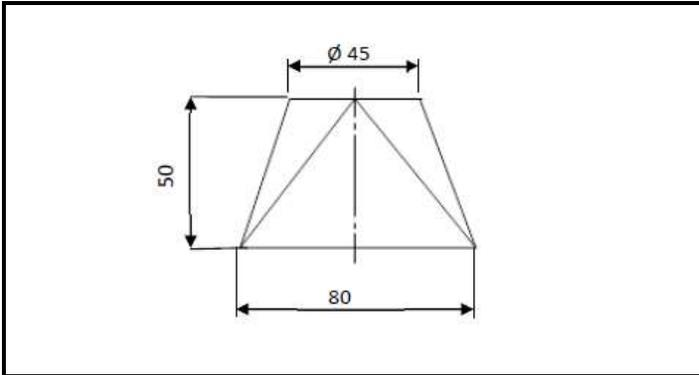

FIGURE 11.1
11.1 Develop the square to round transition piece shown in FIGURE 11.1.